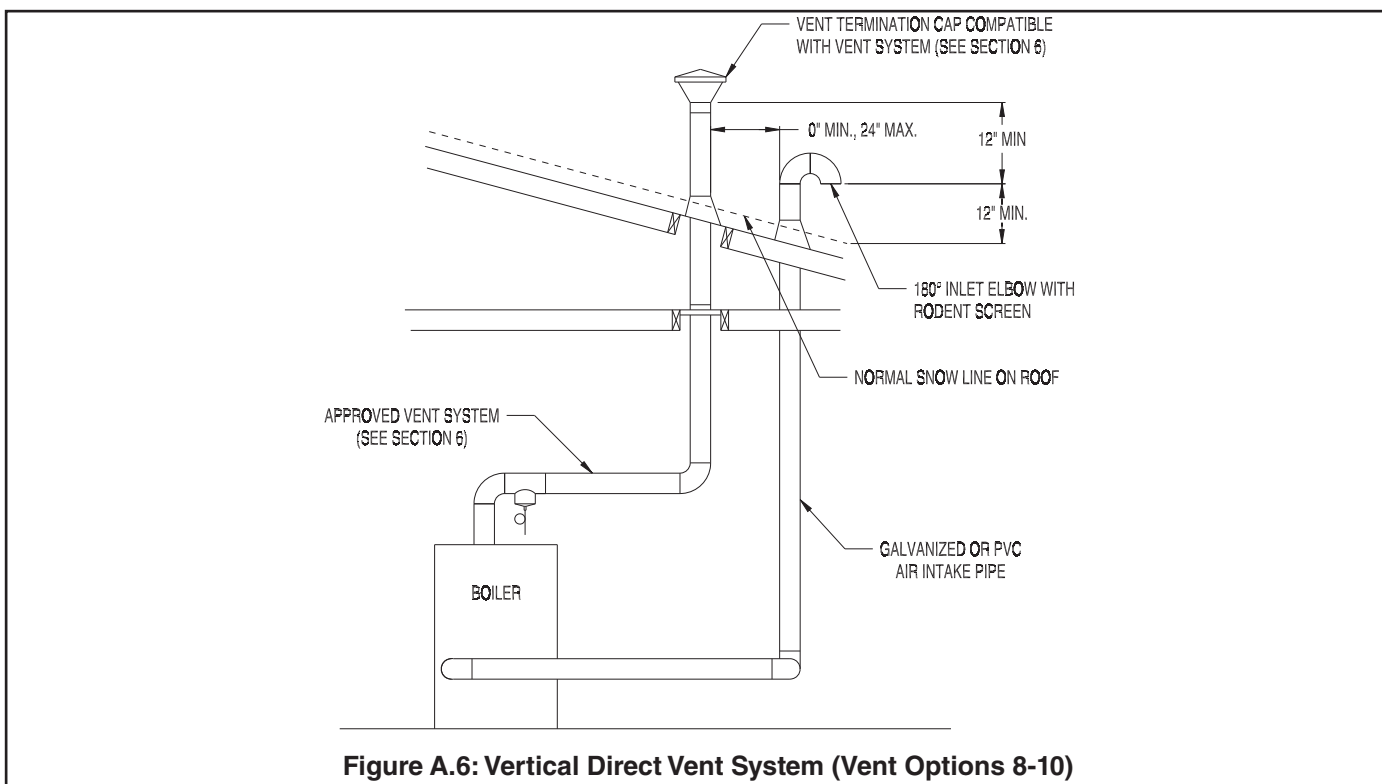

Figure A.6: Vertical Direct Vent System (Vent Options 8-10)
- b. Vertical systems use either the terminal provided with this kit or a 180 degree elbow (either a single fitting or two 90 degree elbows) as shown in Figure A.6 or A.7. Note that the 180 elbow is preferred if the intake terminal is frequently exposed to wind-driven rain. Except in very cold climates where ice build-up is a concern, it is recommended that a rodent screen be installed in the end of the 180 degree elbow. When this is done, use stainless steel, galvanized steel, or non-metallic screen having ½" mesh.
5. Vertical terminal location - Install the intake terminal as shown in Figure A.6 or A.7. The vertical distance between vent and air inlet terminal openings must be at least 12". The bottom of the air inlet terminal must be at least 12" above the normal snow accumulation that can be expected on the roof.